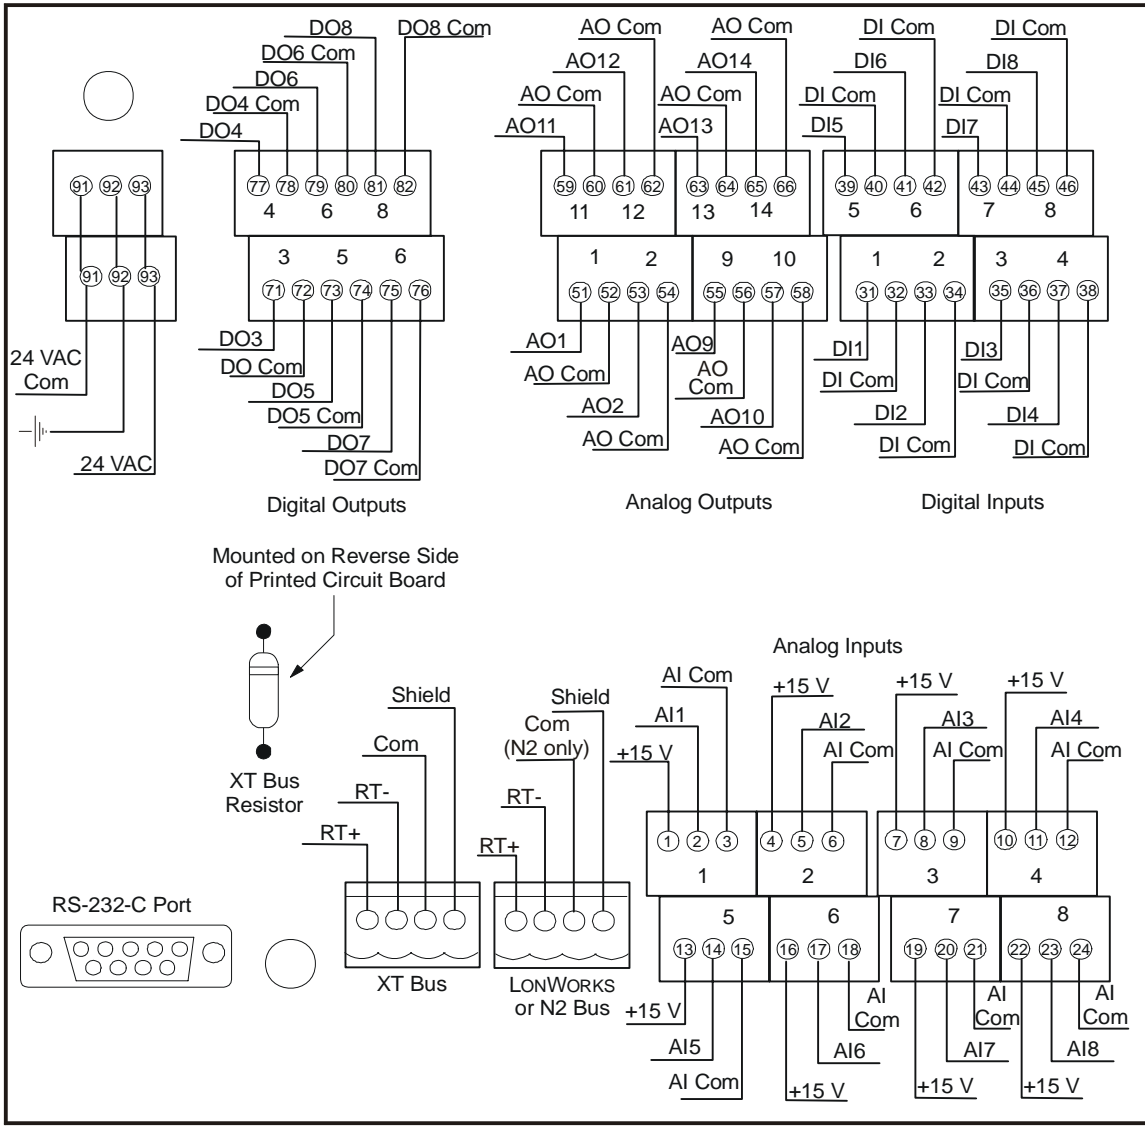

Figure 17: Connections at the Top and Bottom of the Cabinet Door Mounting Frame
3. Wiring terminations are made via the terminal blocks, which accept $1 \times 1.5 \text{ mm}^2$ (16 AWG) cable at the back of the frame. See Figure 17. Terminations of the LONWORKS N2 and XT communications bus cables are made via the connectors provided with the base.